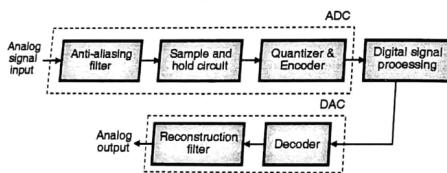

Fig. 10.1.1 : A/D and D/A converter application
- Fig. 10.1.1 shows a A/D and D/A converter application.
As shown in the Fig. 10.1.1 the A/D conversion involves band limiting the signal, sampling the signal, quantizing it and encoding it into a suitable digital format before transmission. Once the signal is transmitted, it is received and converted back to analog form by the decoder and the reconstruction filter.